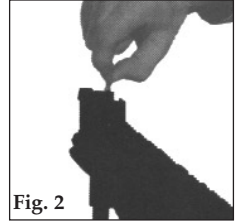

Fig. 2
2. Insert a single pellet into the breech end of the barrel (Fig. 2), closed end first until the skirt is flush with the face of the breech. **Caution:** This is a potential pinch point if the barrel should close unexpectedly! To prevent injury during loading do not move the safety to the "Fire" position. Fingers should be outside the trigger guard until barrel is returned to locked